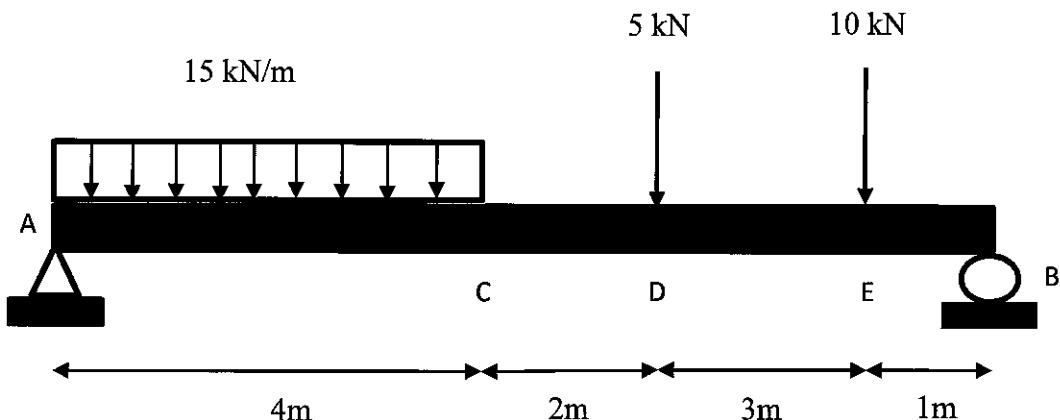

Figure B4 / Rajah B4
A simply supported beam is loaded as shown in **Figure B4**.
- (a) Based on **Figure B4**;